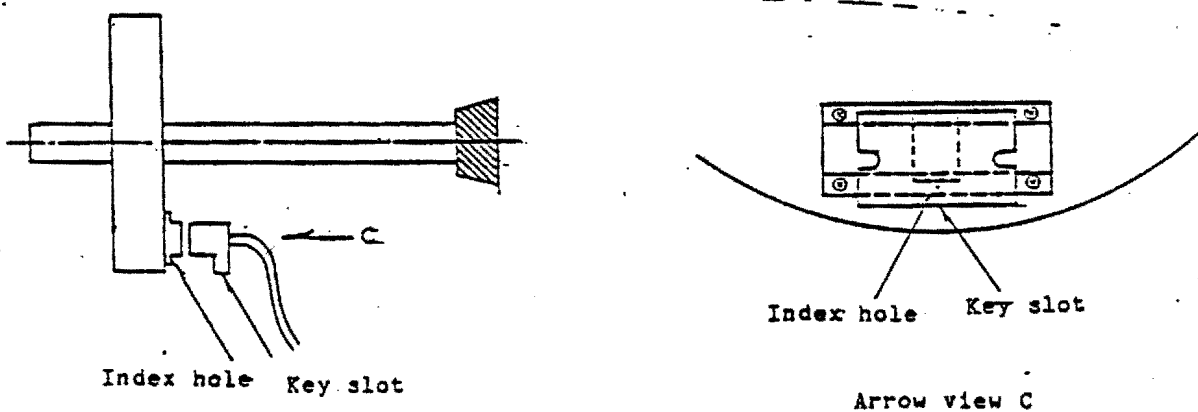

Fig. 6.5 Mounting onto a flat surface on the load side of the rotating body
- (2) When the mounting surface is on the spindle load side, mount so that the index hole and key groove are on the circumference side, as shown in Fig. 6.5.